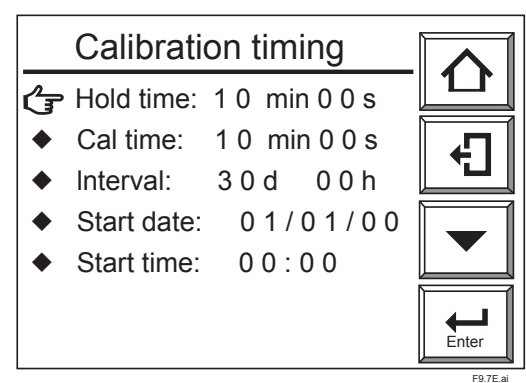

Figure 9.10 Calibration Timing Display
- (1) Select the “Calibration timing” display. A panel display as shown in Figure 9.10 appears.
- (2) Select each item for the calibration to display the numeric-data entry display. Enter the desired numeric values for the calibration.